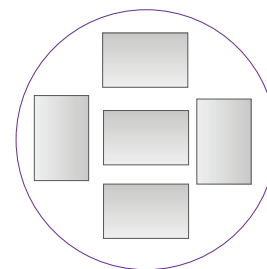

Figure 2.1 Orientation of glass sheets on metal evaporator stage.
1. On the platform stage, (NOT the dome stage) place 5 willow glass sheets on the tool surface using the NFC-supplied low particulate tape in the layout depicted in **Figure 2.1**. Form tape in a loose roll, it should only contact the glass on the BACK surface.